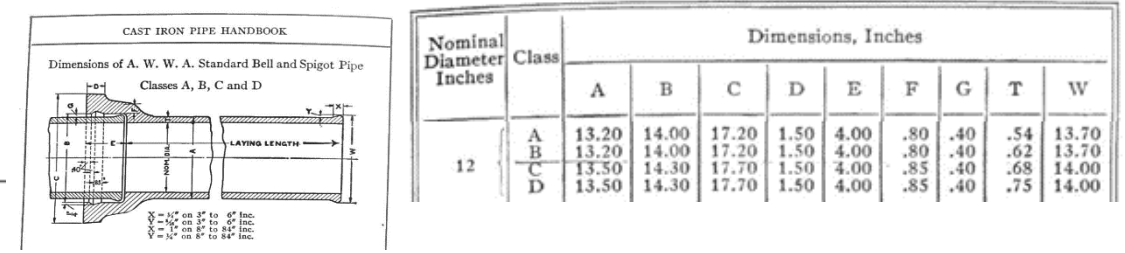

Figure A.1. Dimensions of Class A-D CI pipe (CI handbook, 1927)
- Class C and D CI have a different outer diameter (OD), and will present additional difficulties in fixturing, pressurizing, and loading (Figure A.1 provided dimensions for reference)